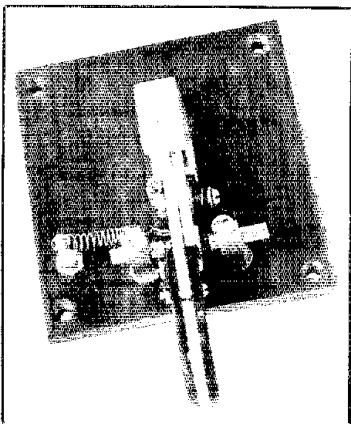

Fig. 1 — The final assembly details of a keyer paddle made by Arnold Harvey, W8OJN.
□ While it may not be possible for the average ham to build a high-performance transceiver, most can construct high-performance station accessories. There is a certain feeling of pride and a sense of accomplishment that goes with using a piece of equipment you have built yourself. In this article, I will describe a keyer paddle that I made. With care and a workshop that is equipped with a drill press and a few other small tools, most amateurs should be able to duplicate the project. Fig. 1 shows my paddle.